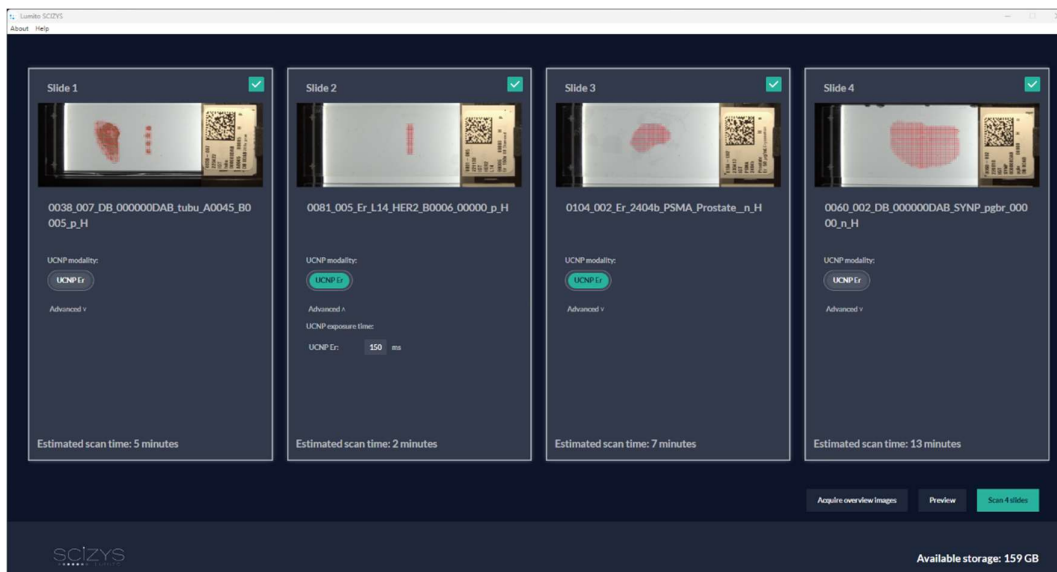
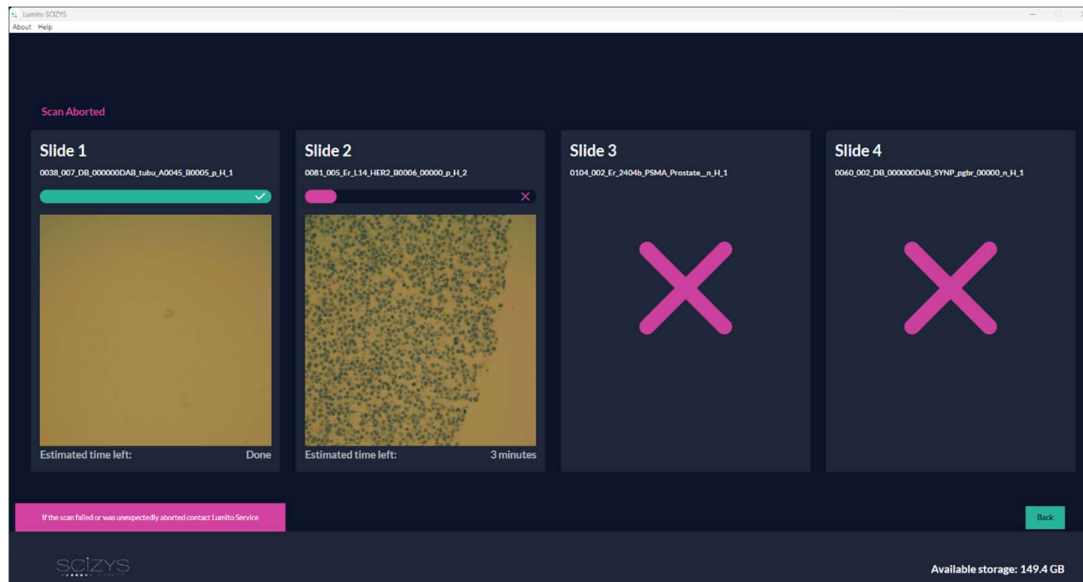

Figure 6-20 Four slides added to the scanning queue.
Figure 6-30 Status of scanned images after aborting scan.
- Repeat steps 1-3 for every slide in the batch as needed until they are ready for scanning and highlighted by a white frame and a green check-mark, as shown in *Figure 6-20*.
2. After the scanning has stopped, the progress window will show the status of the scan. Slides that were successfully scanned are marked with green filled progress bars with white checkmarks. Images that were not saved are marked with red progress bars or red crosses (Figure 6-30). Click **Back** to go back to the overview window (Figure 6-20) or open the Loading Door to insert new slides.